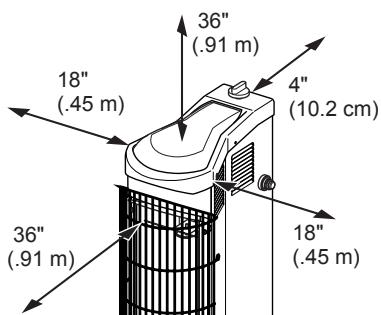

Figure 1 - Clearances from Combustibles
4. Minimum heater clearances from combustibles: Back: 4 inches (10.2 cm); Sides: 18 inches (.45 m); Top and Front: 36 inches (.91 m) (see Figure 1).